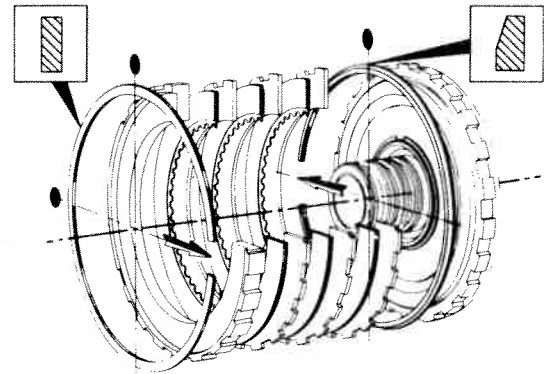

Fig. 7-121 Snap Ring Installation
(15) Install intermediate clutch backing plate, ridge upward or forward, and fasten in case with backing plate-to-case snap ring. **This snap ring is flat on both sides. Locate gap of snap ring opposite band anchor pin.** Refer to figure 7-121.